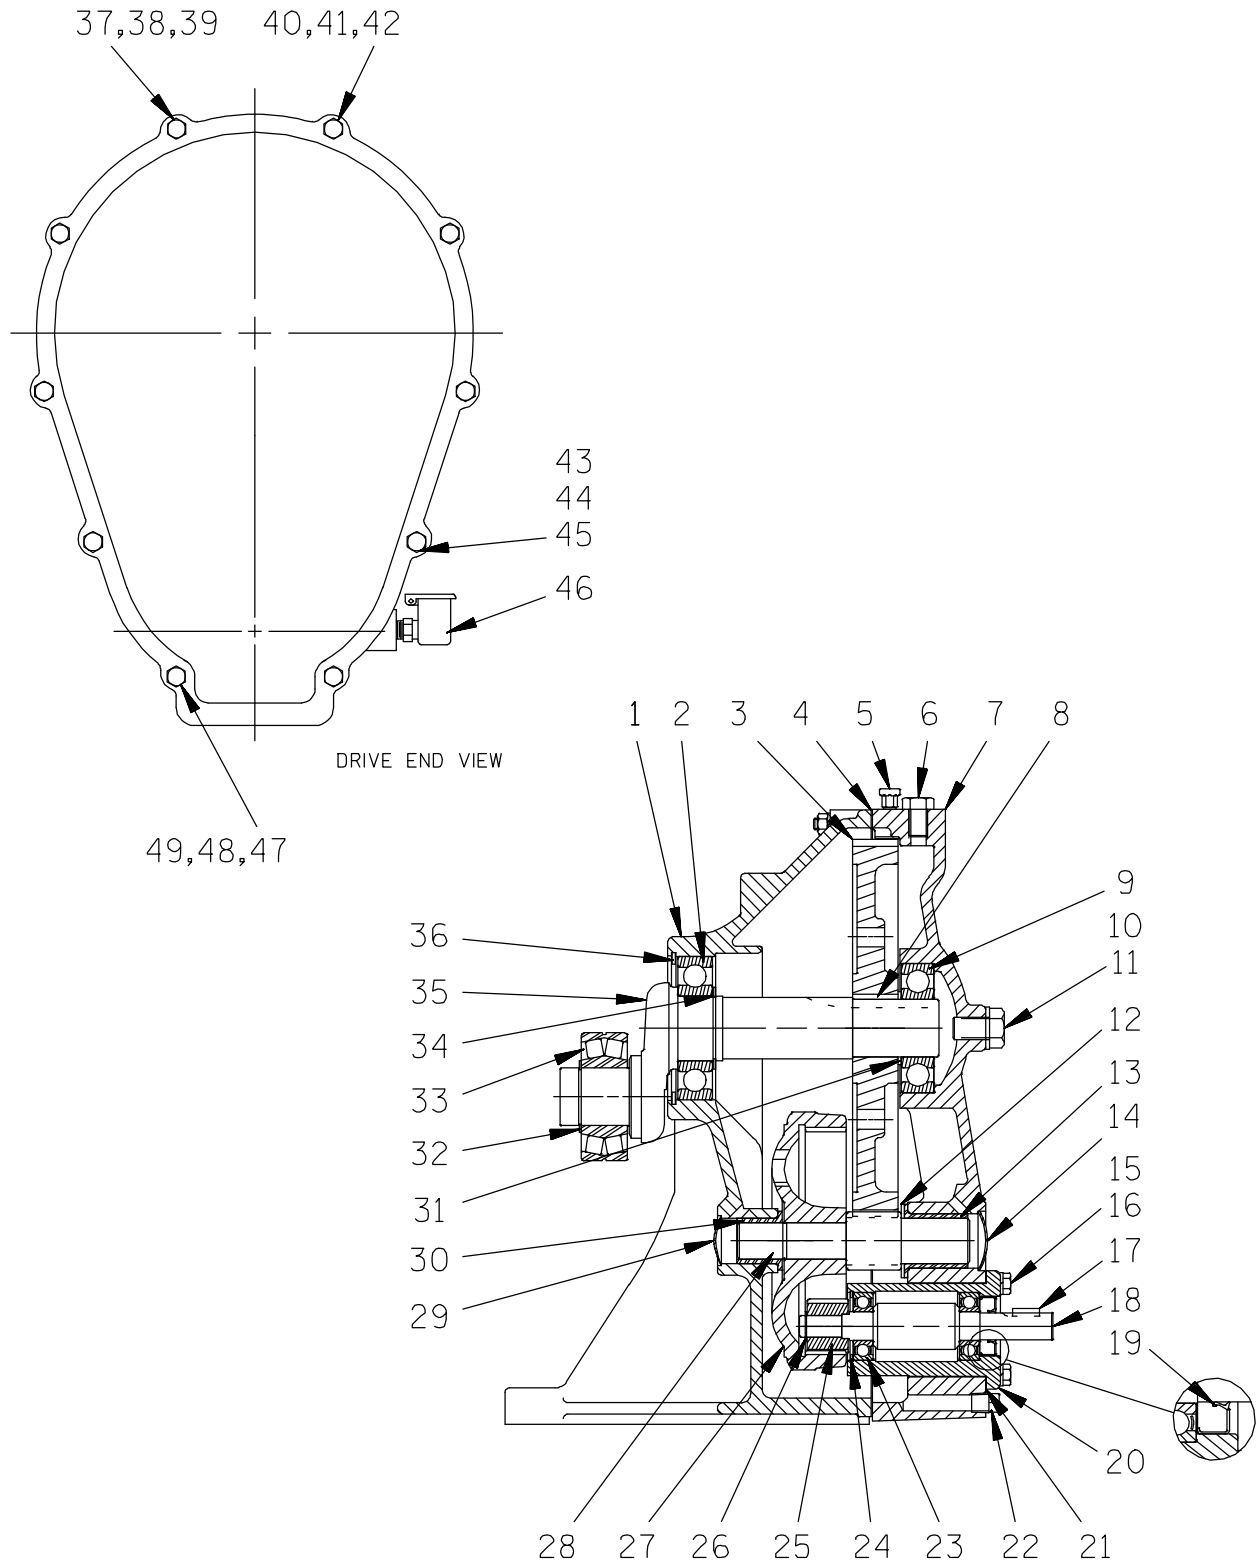

Figure 4. 44161-009 Gearbox Assembly
Loosen the hardware (2, 3 and 4) and remove the end cap (27, Figure 1). Slide the bearing cap (1) off the crankshaft roller bearing (34, Figure 4), and remove the plunger rod assembly.
Disengage the hardware (19, 20, 21 and 22) and remove the coupling guard (4). Loosen the hardware securing the drive shaft coupling (1). Separate the gearbox assembly from the coupling by pulling straight away. Remove the shaft key (17, Figure 4).
(Figure 4)